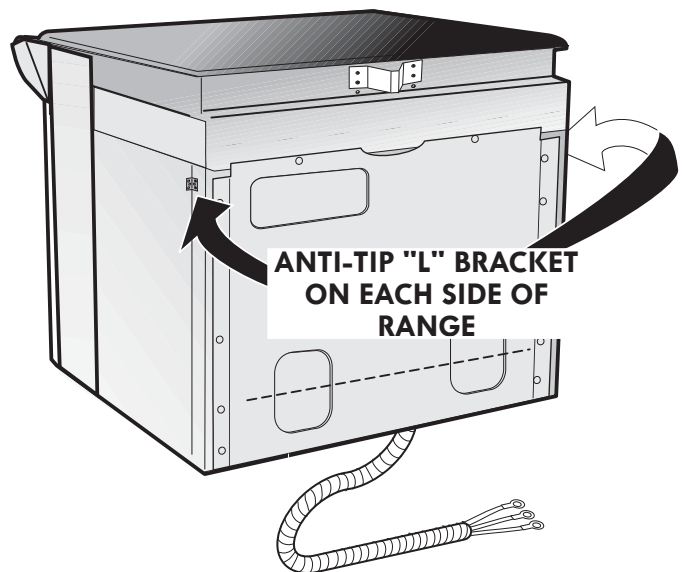

Figure 6
1. The range is equipped with two anti-tip "L" brackets located on each side of the range with two screws (see figure 6).